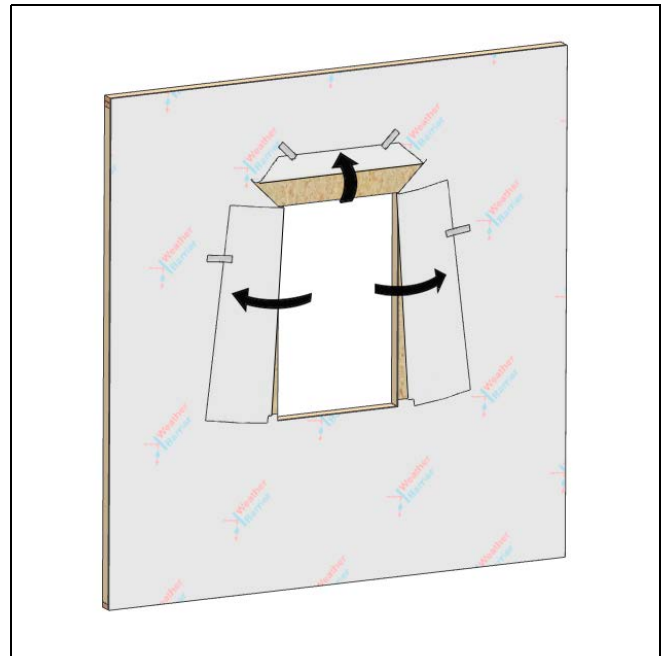

Figure 17
2. Flip the top up and side flaps away and tack temporarily. See Figure 17.